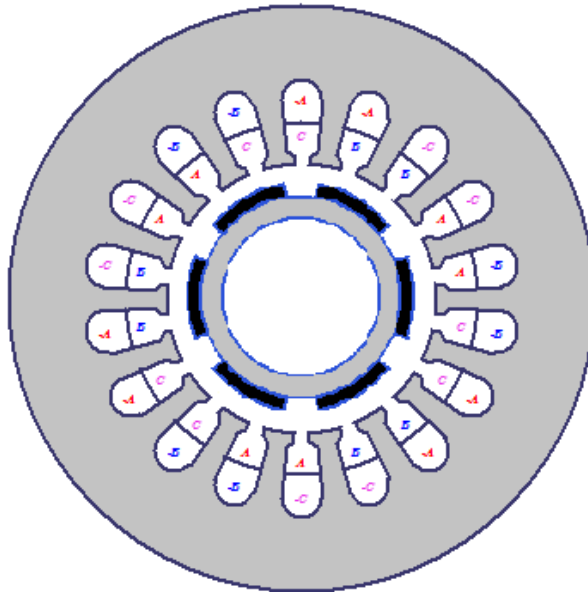

Figure 1
3. A 1 kW, three-phase, 50 Hz, 400V synchronous motor has a design such as seen in Fig. 1.
- Give one advantage and one disadvantage with having the permanent magnets placed on the rotor surface, as in Fig 1, compared to interior mounted permanent magnets.